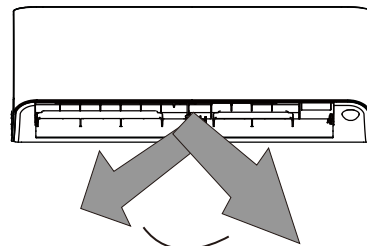

Fig. 15 – Right – Left Louver Position
1. Press **SWING ↔** (right-left airflow) on the remote control once to activate the louver. Every time you press **SWING ↔** (right-left airflow), the louver adjusts by 6 degrees. Press **SWING ↔** until the preferred direction is reached (see Fig. 15).